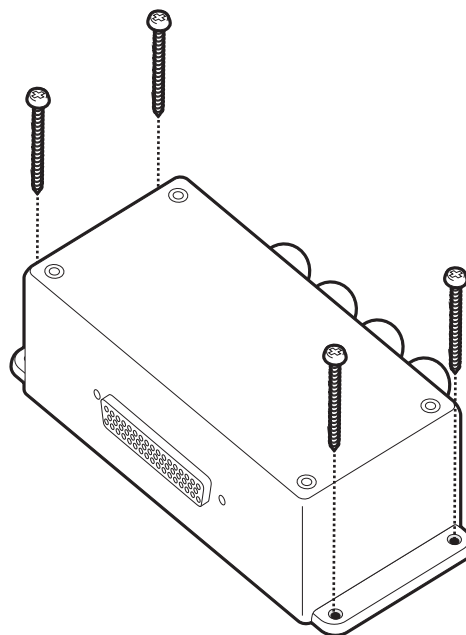

Figure 38 Mounting the junction box
- The transceiver is supplied with four self tapping screws for attachment of the junction box to a suitable surface. Please refer to Figure 38 for guidance.